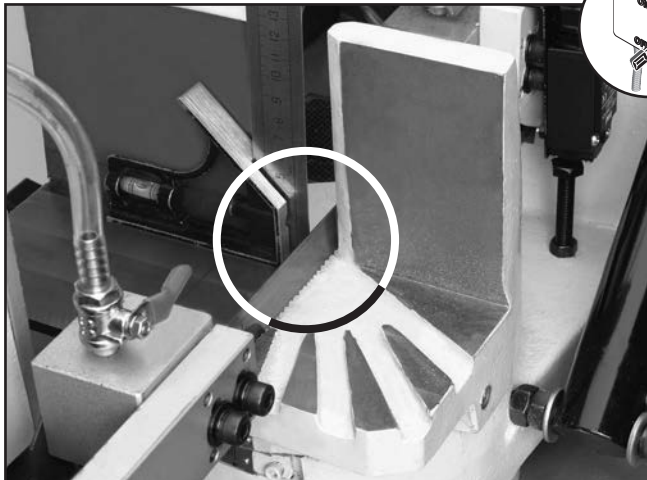

Figure 55. Checking blade squareness to vise.
4. Place a quality square against the vise and the side of the blade (**Figure 55**) to verify the blade is square with the vise.